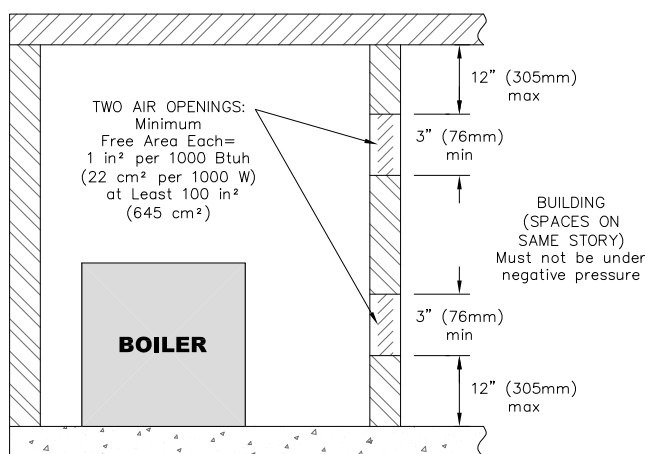

Figure 1.3: Air Openings – All Air from Indoors on the Same Floor
- a. **Combining Spaces on the Same Floor:** Provide two permanent openings communicating with additional spaces that have a minimum free area of 1 in² per 1000 Btu/hr (22 cm² per 1000 W) of the total input rating of all gas fired equipment but not less than 100 in² (645 cm²). One opening is to begin within 12 inches (305 mm) from the top of the space and the other is to begin within 12 inches (305 mm) from the floor. The minimum dimension of either of these openings shall be 3 inches (76 mm). See Figure 1.3 for an illustration of this arrangement.